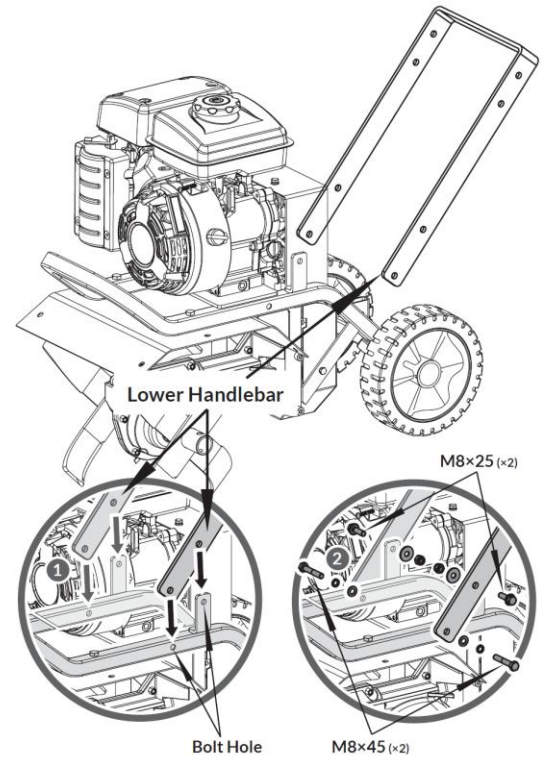

Figure 6
2. Secure the Lower Handlebar (use lower holes) to the Support Bracket with M8×45 Hex Bolts, M8 Spring Washers, and M8 Flat Washers using a 13mm Wrench (**Figure 6**).